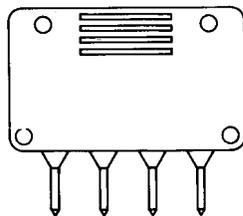

Fig. 17—422A Plug
2.17 **422A:** The 422A plug (Fig. 17) consists of a shell of black insulating material, equipped with four pin-type terminals. The 422A plug is designed to be inserted into four KS-14172, L1 jacks and forms part of the L4BP cord.